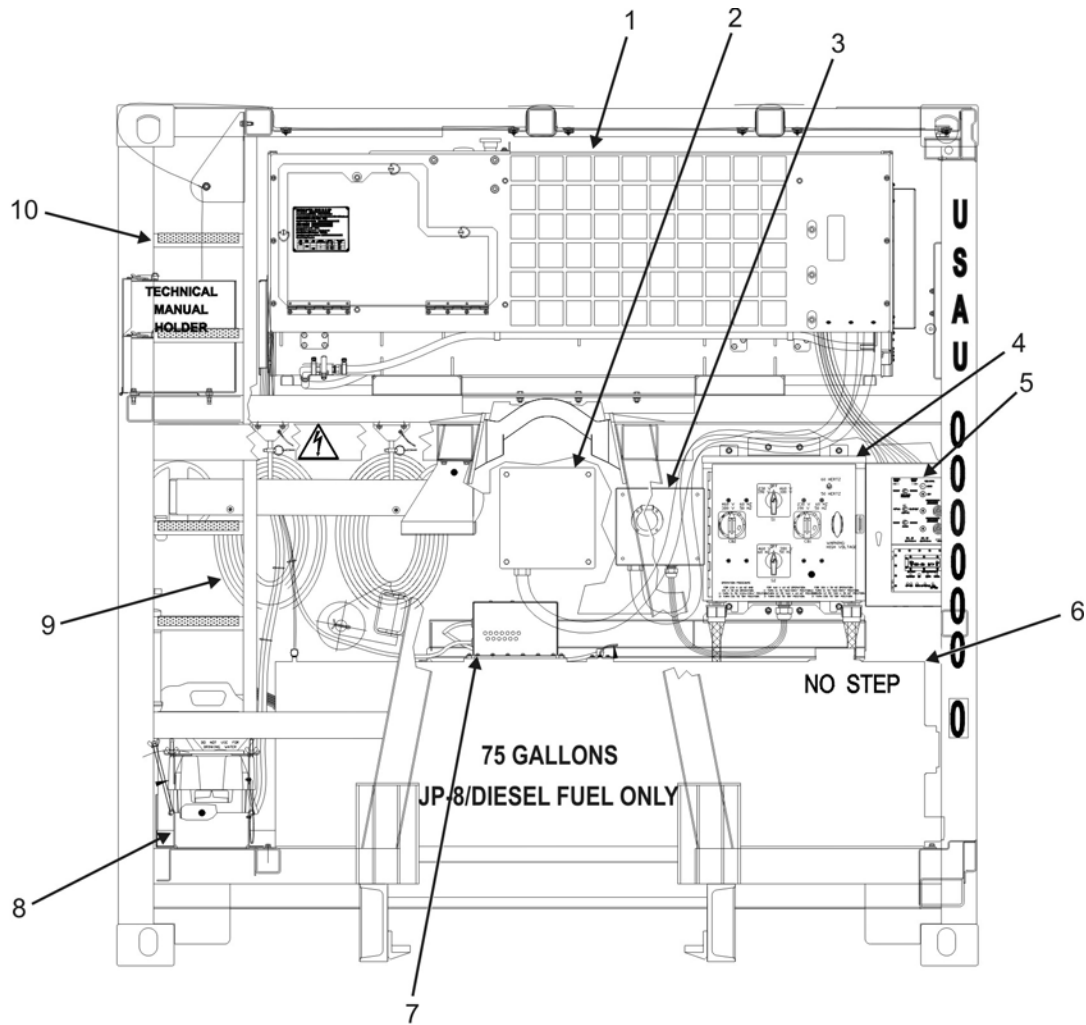

Figure 1. Location of MTRCS Components.
This Technical Bulletin (TB) is being released to provide procedures for replacement of the refrigeration unit (RU), original model number 182K0070-1 (MTRCS01) with the new model number 182K1017-1 (MTRCS02) in the Multi-Temperature Refrigerated Container System (MTRCS). The capacitor box, power input box, and associated cables are also removed in this procedure. The power box is modified by adding new cables and installing the K1 relay that was removed from the power input box. Refer to Table 1 and Figure 1 for a description and location of components.